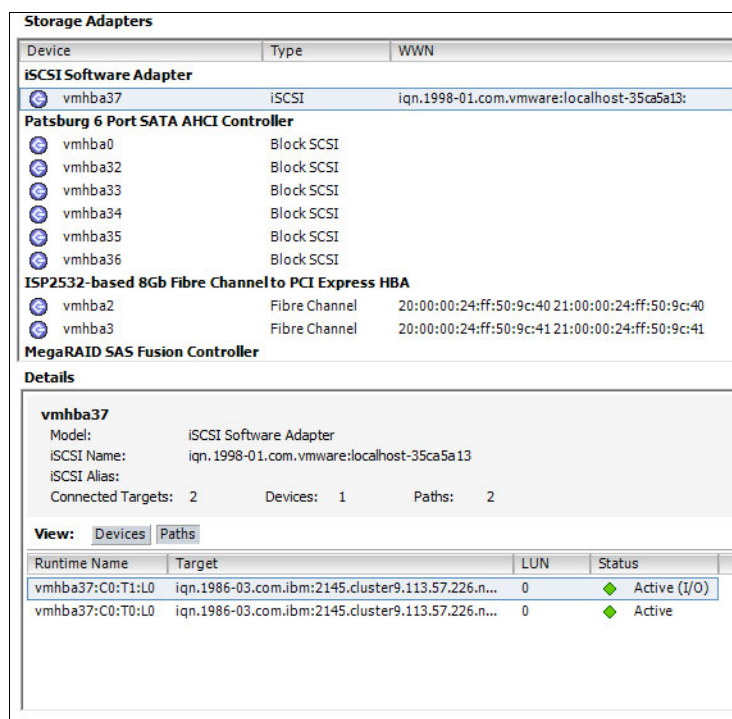

Figure 7-47 Storage Adapters
- a. Under the Port tab of the vSwitch properties, select a VMkernel port and click **Edit**, as shown in Figure 7-47.